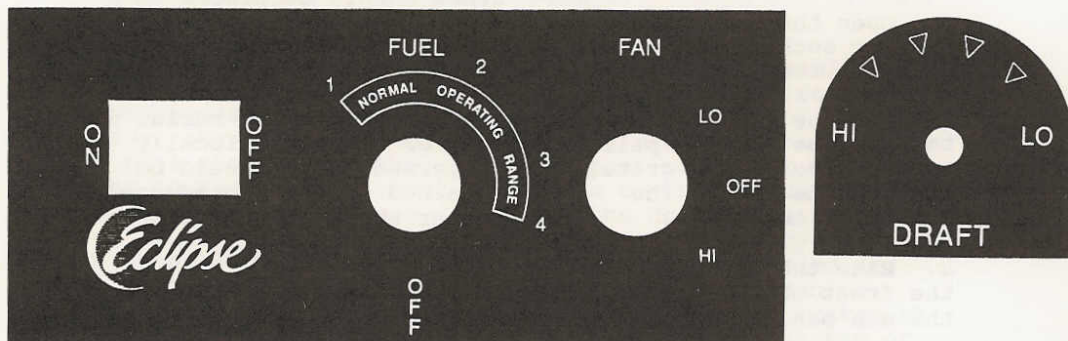

Figure 1
2. Turn the ON/OFF switch to [ON], the FUEL FEED and ROOM AIR FAN to [OFF]. Turn the DRAFT to [LOW]. See figure 1.
Fuel Control. The fuel control sets the rate at which pellets are fed into the fire. The amount of fuel fed increases as the fuel setting goes from [1] to [4] and visa versa. See figure 1.
once again yellow/white in color, burning briskly and ash is being blown out of the burn grate. Check the flame in a few minutes and readjust the draft setting if necessary. As pellet size, length and quality changes, the draft settings for any given fuel setting can change. See figure 1.
Room Air Fan. The room air fan circulates room air into the back of the stove. As the fuel setting is increased, increase the speed of the room air fan and visa versa. The room air fan has a switch which automatically sets it on high when the stove is producing heat faster than the fan is carrying the heat into the room. After the fan runs at this high setting a few minutes it may cycle back to its original setting. Set the room air fan control where the fan will not cycle back and forth from its setting to high. See figure 1.